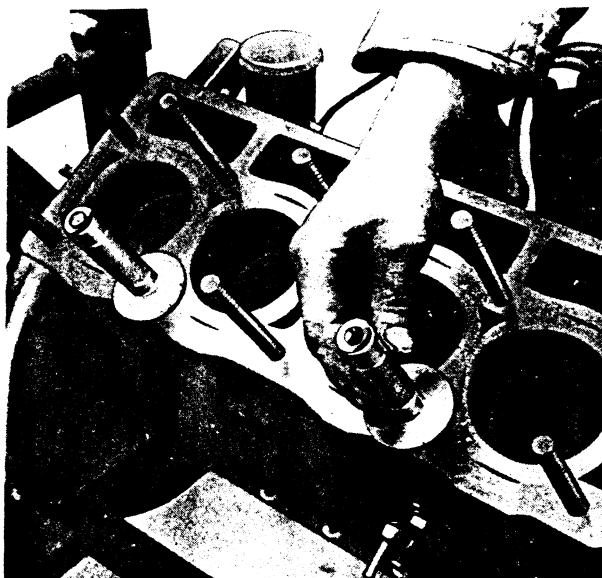

FIG. 7
3. On to the second and fourth cylinder head studs on manifold side, screw sleeve retainers—FT.3, Fig. 7.